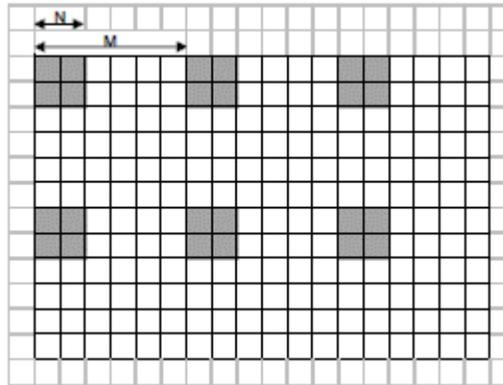
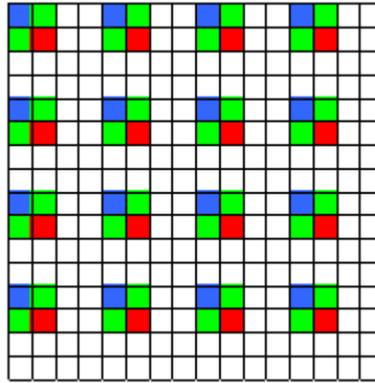

Figure 52: Monochrome subsampling with  $N = 2$  and  $M = 6$ .
Figure 53: Color subsampling with  $N = 2$  and  $M = 4$ .
Cheetah cameras provide a flexible subsampling capability. You define the number of sequential pixels to read out (N) and the total number of pixels of the contiguous area (pixels readout + pixels skipped) (M). The subsampling decimation factors (N and M) apply along both rows and columns as shown (Figure 52 and Figure 53). The camera adjusts AOI size depending on subsampling factor, averaging factor, and the presence of a color filter array on the image sensor.